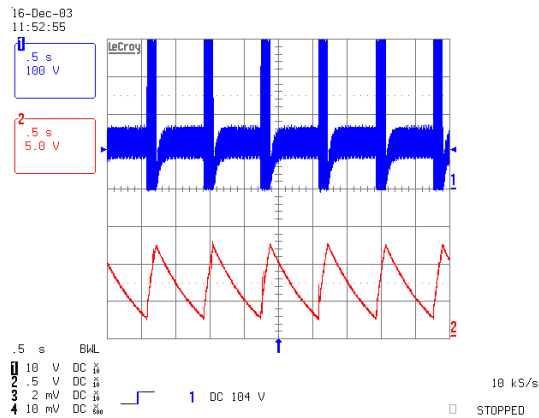

Figure 9, Short Circuit Output Current.
In figures 9 and 10, trace (1) shows the half bridge oscillations during both types of fault mode and trace (2) shows the charging and discharging of the CSD capacitor.